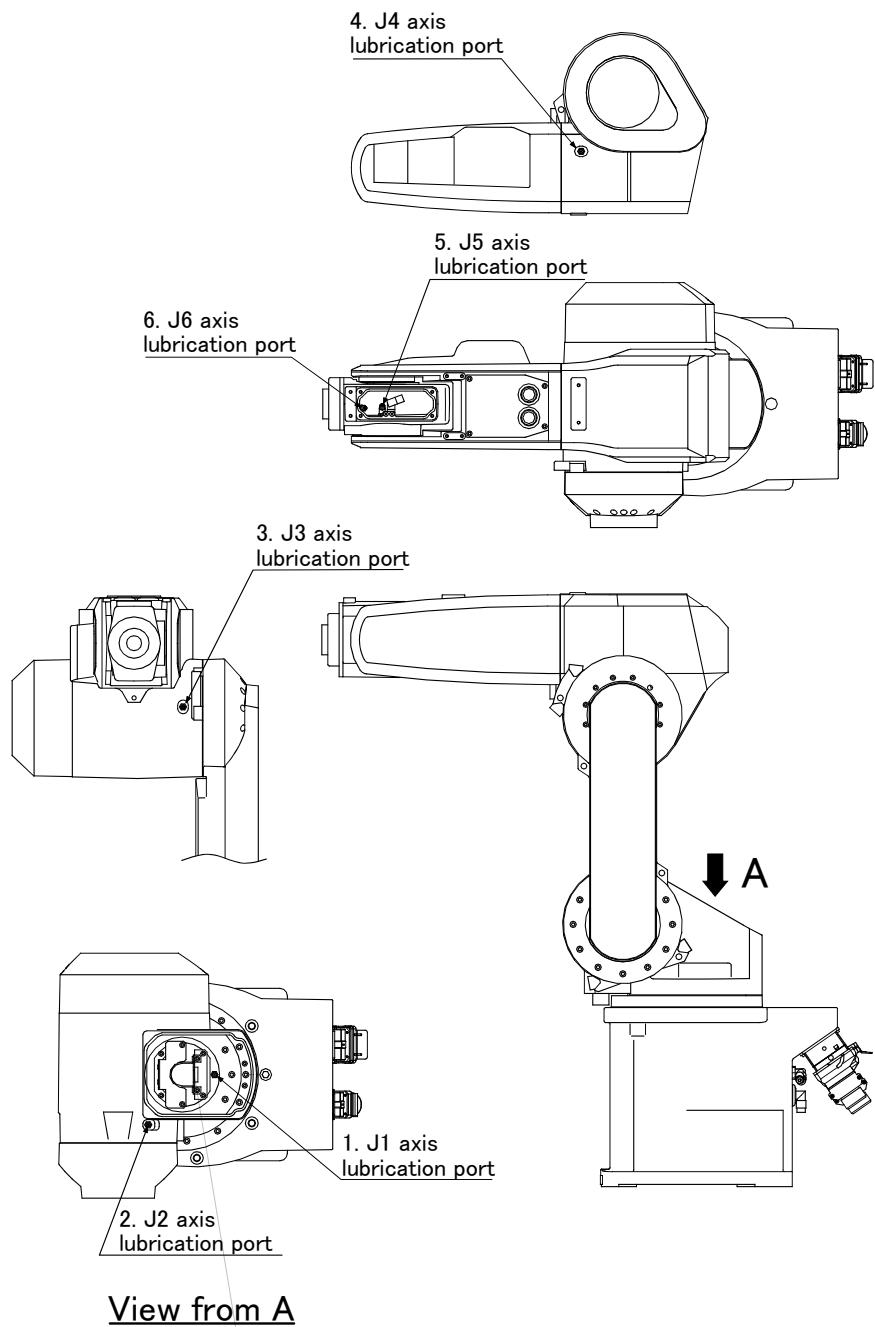

Fig.5-6 : Lubrication positions
- The numbers in the correspond to the supply positions in Fig. 5-6.
(2) Lubrication method
- Set the robot to the posture shown in Fig. 5-6.